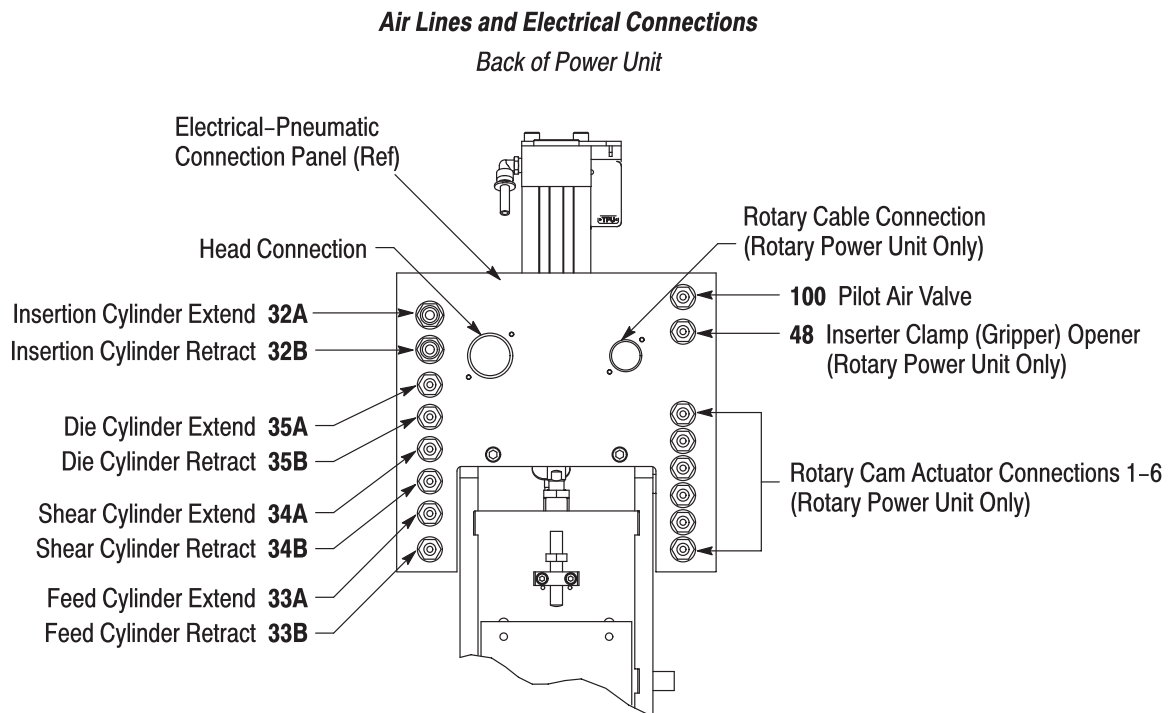

Figure 5
5. Connect the CPC electrical connector(s) and air lines from the machine to the power unit (numbers are marked on the air lines). For proper connections, refer to Figure 5.